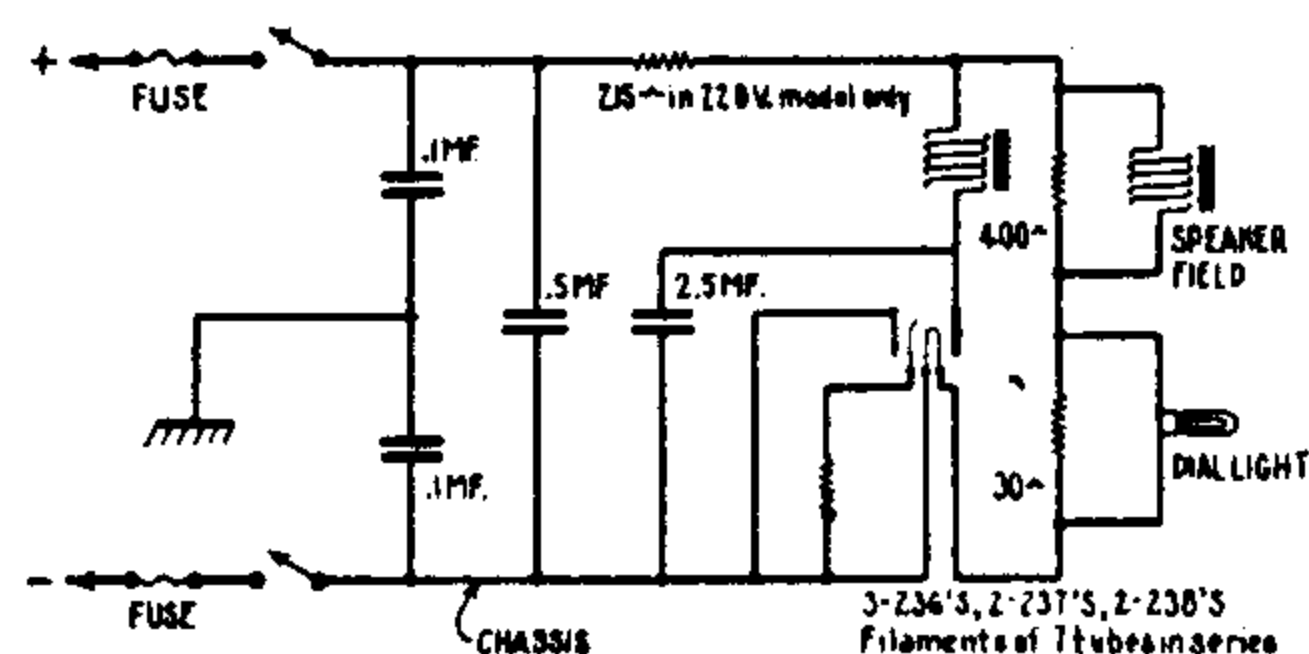

Fig. 7. Skeleton diagram of the voltage supply system of the D.C. models.
The skeleton diagram of Fig. 7 shows the arrangement of the voltage supply system. As shown in this diagram, the filament current (.3 ampere) is supplied by connecting the filaments of all seven tubes in series and including the dial light, shunted by a resistor, and the loudspeaker field, also shunted by a resistor, in the same series circuit. In the 220 volt model an additional 215-ohm resistor is connected in series with the line to reduce the voltage. This arrangement of the filament circuit keeps the power consumption low and reduces the heat dissipation. The arrangement is made possible by the use of the 236-7-8 tubes with their indirectly heated cathodes. The filament merely heats the cathode and is not part of the plate circuit.
- The short-circuit in the wiring, or defective part, should be located with a continuity or ohm meter. When making tests refer to the wiring diagram of Fig. 8 and the skeleton diagram of Fig. 7.